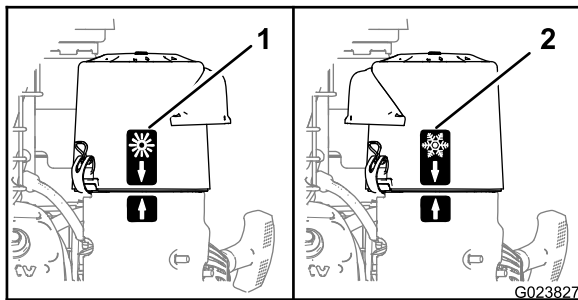

Figure 13
- When operating in a **cold ambient air condition** (cold air temperature and humidity)—position the air-cleaner cover with snowflake decal facing out (Figure 13).
- When operating in a **normal ambient air condition**—position the air-cleaner cover with sun decal facing out (Figure 13).